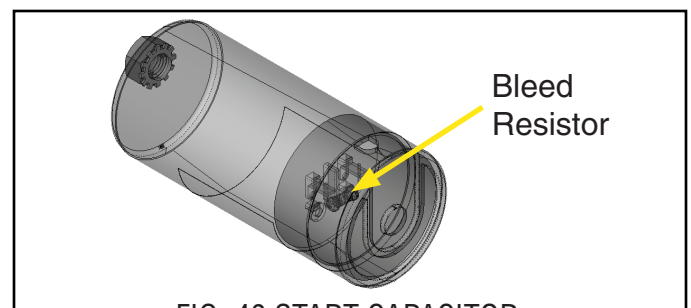

FIG. 40 START CAPACITOR
4. If a bleed resistor is parallel across the start capacitor terminals, isolate bleed resistor from capacitor terminals. See FIG. 40.